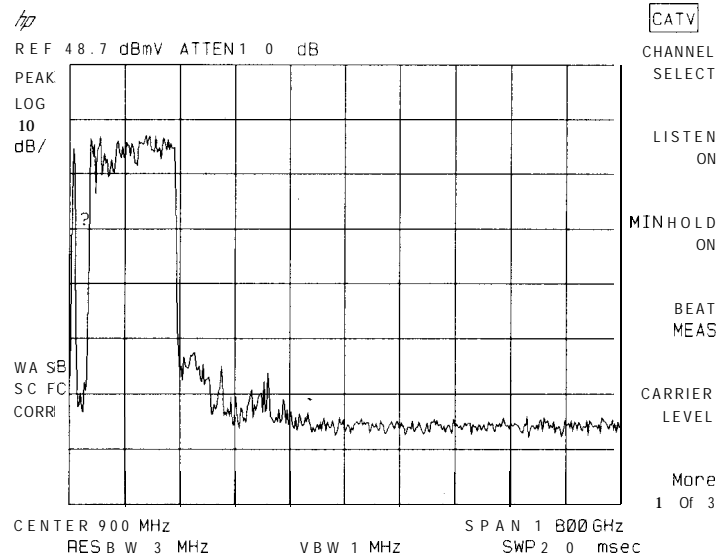

Figure 2-2.
2. Anytime the channel select function is not active (see Figure 2-2), press CHANNEL SELECT, you can enter the channel number, then press **ENTER**.